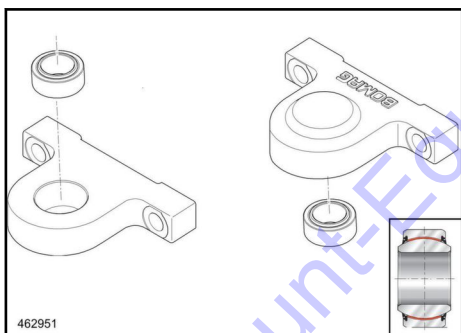

Fig. 188
3. Extract the rocker bearing ↗ Fig. 188 with a suitable puller.